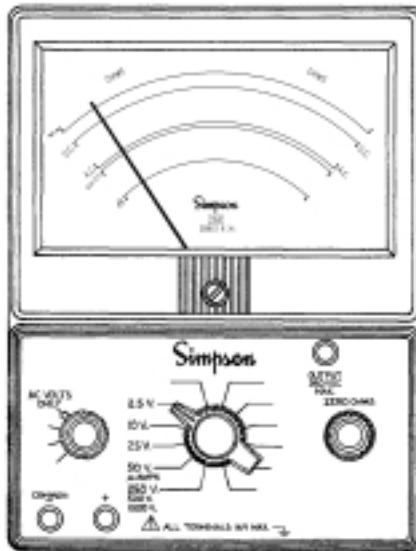

Figure 4-9. Jacks and Switch Positions for Output Measurements
- a. Set the function switch at AC Volts Only position (Figure 4-9).